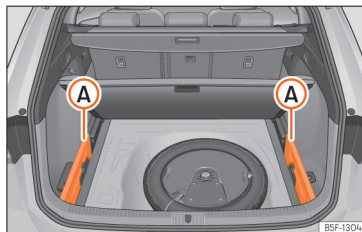

Fig. 179 In the boot: space to store the retractable shelf.
- Remove the left and right covers >>> Fig. 179 ①.